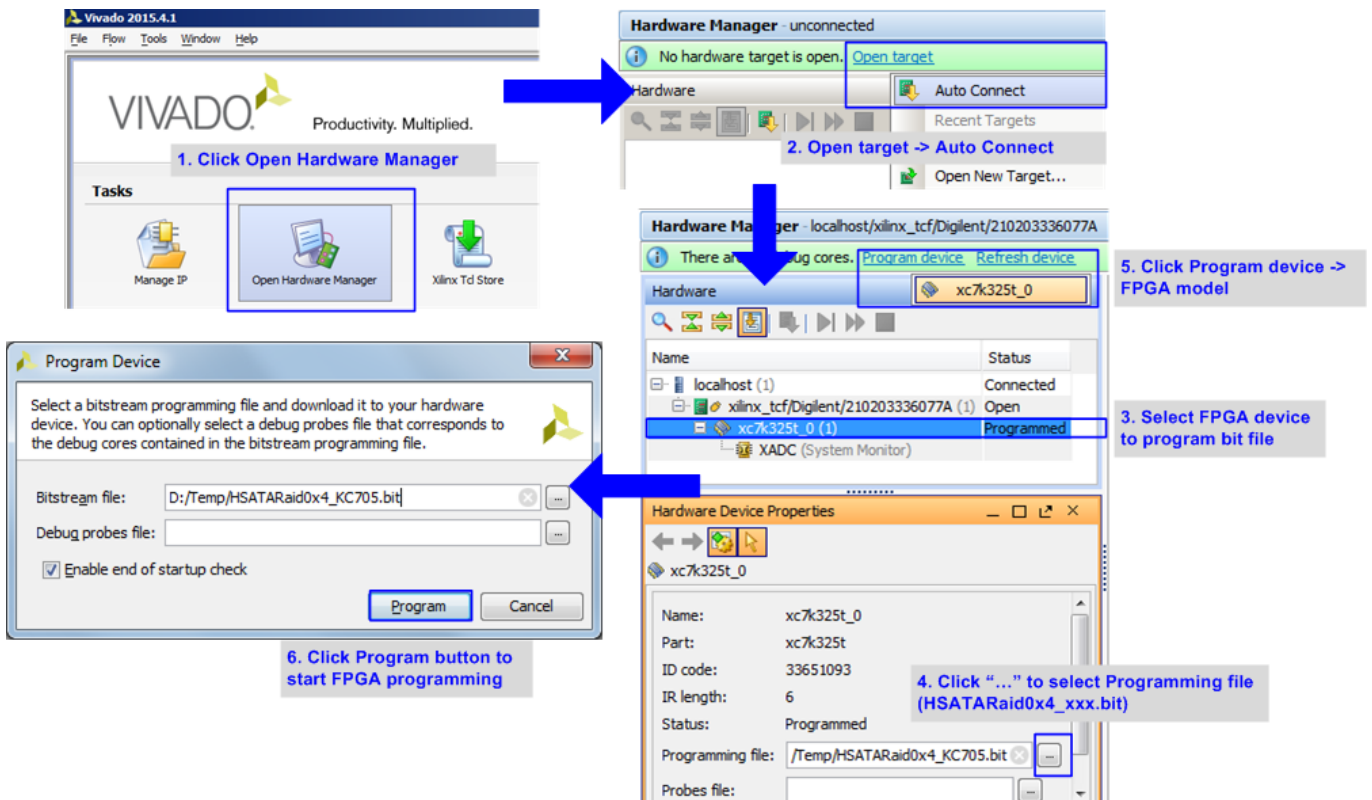

Figure 2-9 Programmed by Vivado
- b) For KC705/VC707/VC709/KCU105 board, use Vivado tool to program bit file, as shown in Figure 2-9.